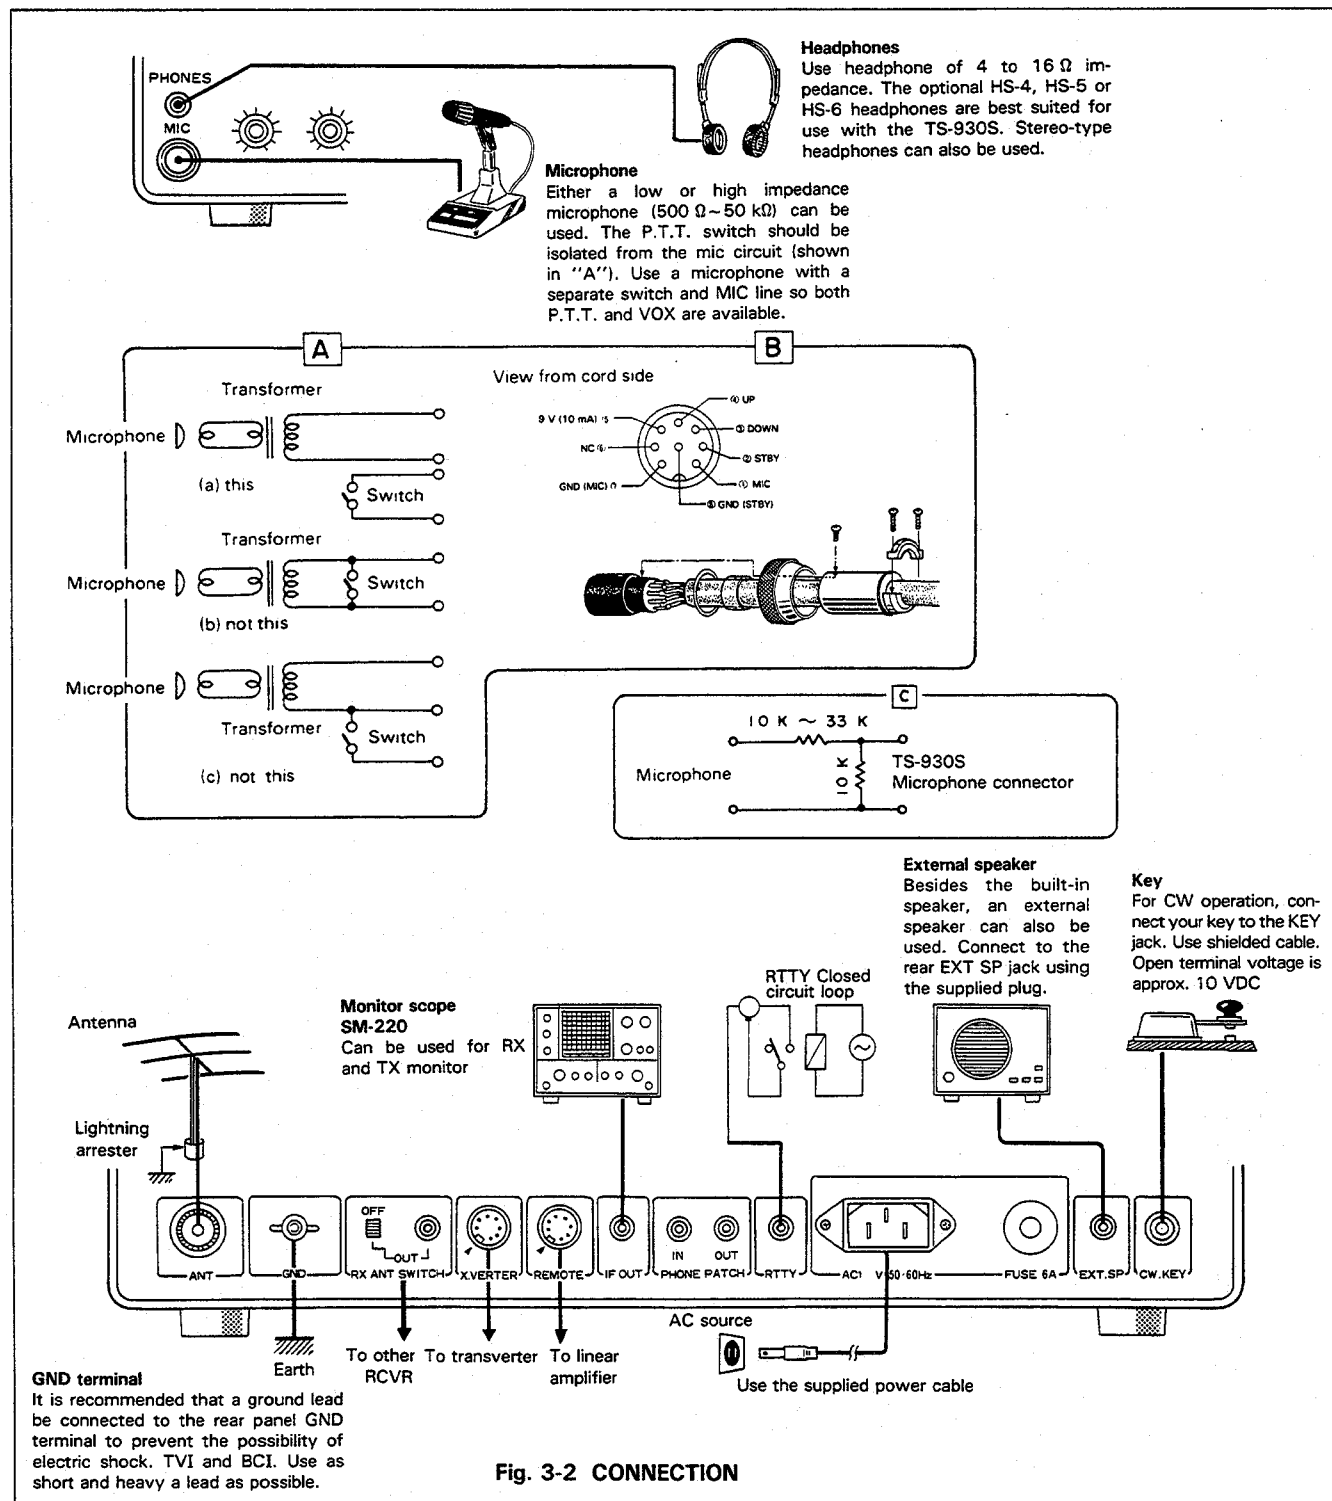

Fig. 3-2 CONNECTION
3.4 CABLING (See Figure 3-2.)
Attach the microphone connector to a suitable microphone, as shown in Figure 3-2. Be sure the microphone PTT switch is separate from the microphone circuit, as shown in Figure 3-2A.